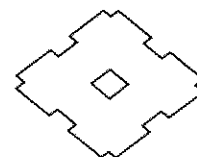

Fig. 18
9. Put the slow speed shaft pins into the rollers (Fig. 18). The above instructions are for eccentric bearings with retainer. Following are the instructions suggested for roller bearings without retainer: